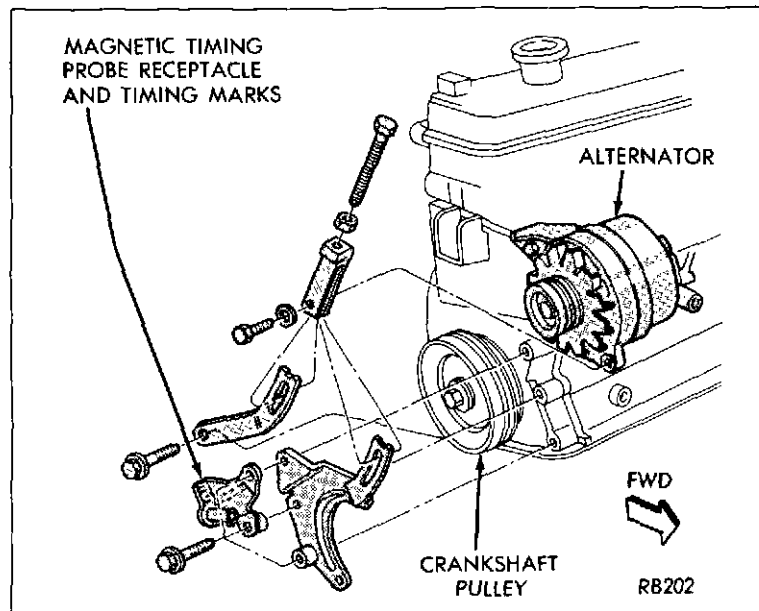

Fig. 20—Magnetic Timing Probe Receptacle
8. Loosen the distributor hold-down arm screw just enough so that the distributor housing can be rotated in its mounting (Fig. 20). Turn the distributor housing until the specified value is reached. Tighten the hold-down arm screw and recheck the timing. When timing is acceptable, recheck the curb idle rpm. If the engine rpm is not at or